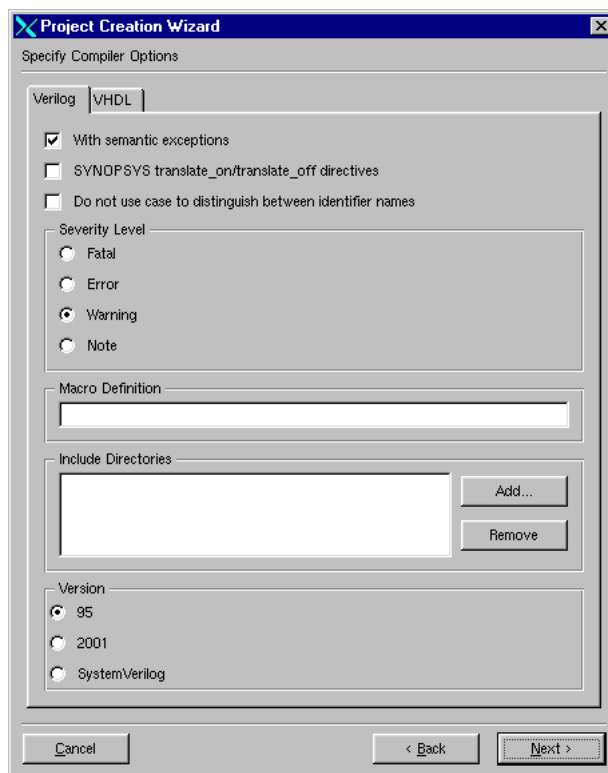

Figure 17: Project Creation Wizard Window
1. From the main menu, choose **Project > New**. This opens the Project Creation Wizard window. Enter the full path and name for your project in the Project Name field at the top of the window, or enter just a project name and use the Browse button to navigate to a directory where you want to store your project data. Then click the Next button at the bottom right of the window to start the Wizard (see Figure 17).